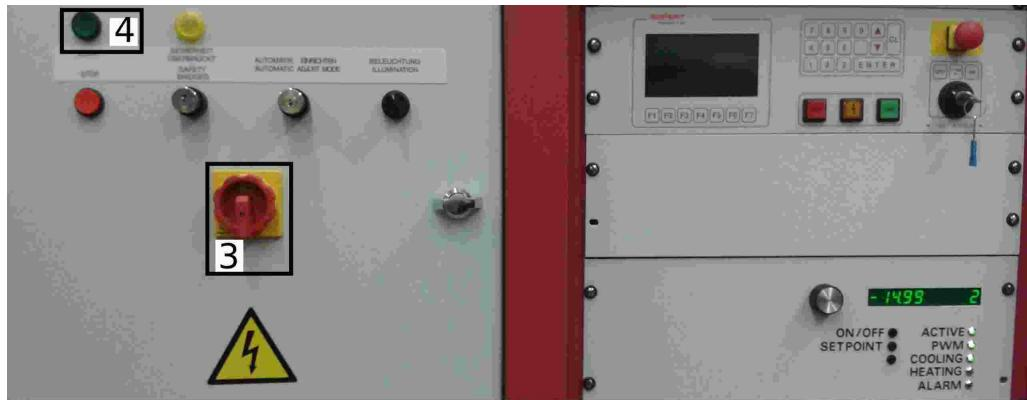
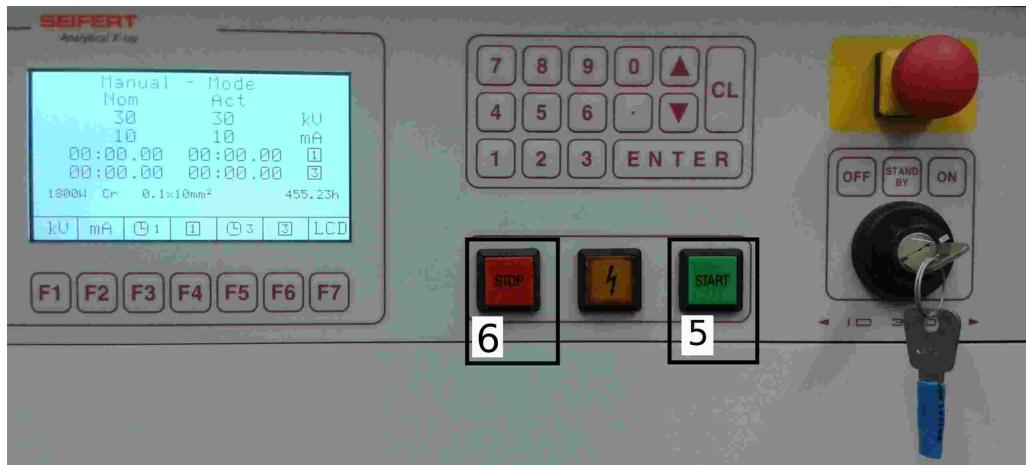

Figure 5: Picture of the command board which enables to operate the X-ray tube and the climatic chamber.
Figure 6: *Detailed picture of the control panel of the X-ray tube generator.*
- Switch on X-ray machine (3 on Figure 5).
- (Re)close the door of the X-ray setup housing, press round, green **START** button (4 on Figure 5).
- Warm up X-ray tube by selecting **F7**. Enter the required current and voltage settings by selecting **F2**, **F4 or F6**. One shouldn't operate the tube with very small currents and large voltages as well as the other way around. Suggested values are 60 kV and 30 mA for warming up the tube. Press **Enter** when finished, then **START** (square green one, 5 on Figure 6). This will take up to 30 minutes depending on when the tube was last operated at this or a higher voltage. If the voltage is not set, check green interlock button (4 on Figure 5) and the door and press **CL** to delete the error message.
- Press **STOP** (6 on Figure 6).
- Turn off X-ray machine (3 on Figure 5).
- **Door of the X-ray setup is not closed properly: "Emergency stop" appears on the display when one tries to start the tube.** Make sure to properly close the door and to press the green **START** button (4 on Figure 5) before retrying.